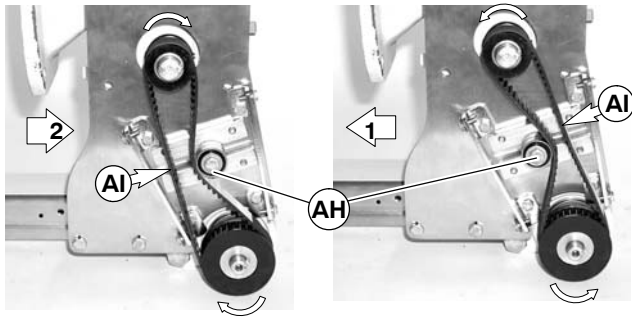

Figure 27
- Depending on conveyor belt travel (direction 1 or 2 of Figure 27), locate timing belt tensioner (AH) as shown. Do not tighten tensioner screw.